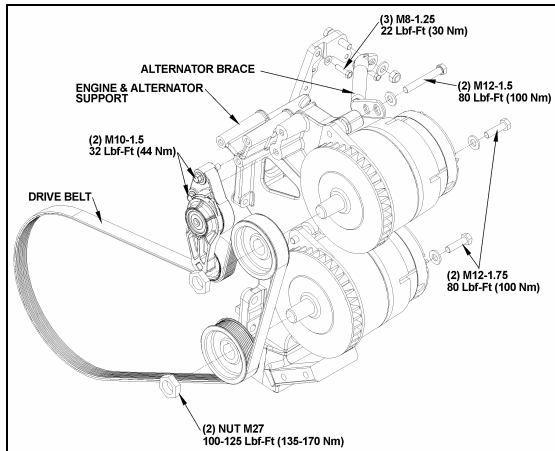

FIGURE 22: BOSCH ALTERNATORS MOUNTING TORQUES (VOLVO D13)
If the alternators needed to be removed, reinstall as follows. Refer to figures 22 and 23 for installation and tightening specifications:
1. If not already done, mount the alternator brace to the engine and alternator support (figure 22).
2. Bolt the alternators to the bracket using one 3.5 inch bolt at the top and two 1¾ inch bolts at the lower mounting bosses (fig. 22).
2. Insert a $\frac{3}{4}$ " socket drive into the automatic belt tensioner opening (Fig. 22).